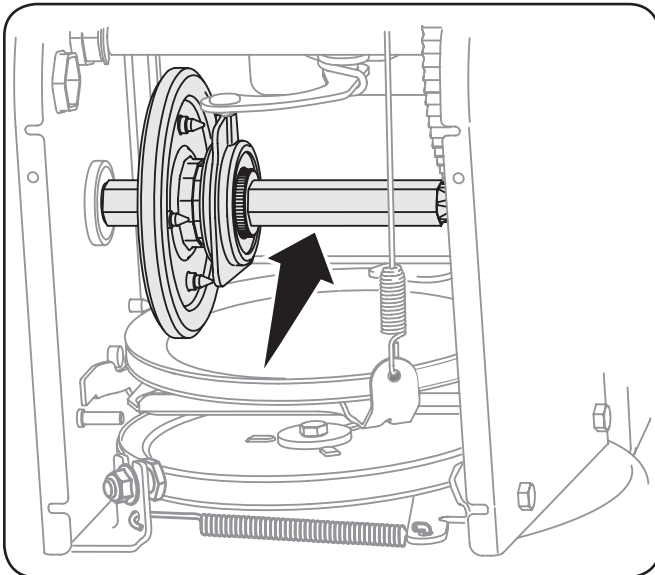

Figure 6-4
4. Apply a light coating of Regular Grade Anti-Seize to the hex shaft. See Figure 6-4.